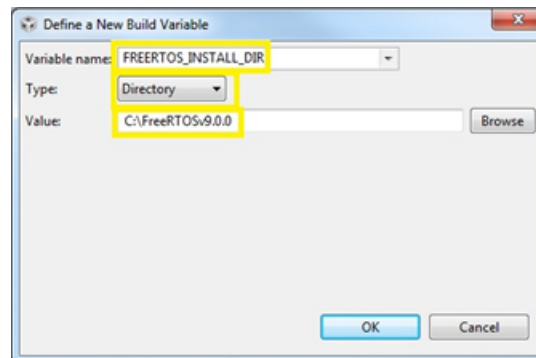

Figure 34. FreeRTOS Support in CCS (2 of 2)
- Change the Value to the <FreeRTOS install path> and then press OK (see Figure 34).